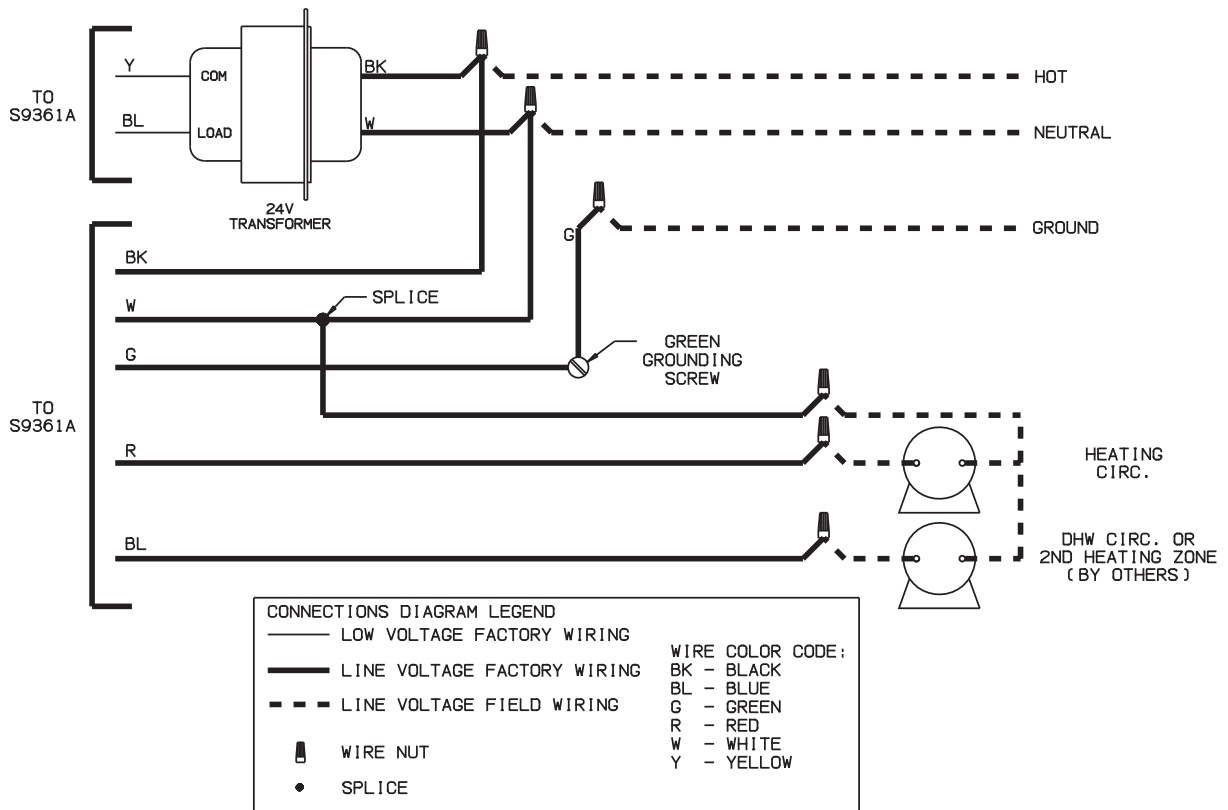

FIGURE 9.0: LINE VOLTAGE FIELD CONNECTIONS
- 1) Line Voltage (120 VAC) Field Connections – See Figure 9.0 for line voltage connections. Provide a dedicated circuit for the boiler of 15A or greater. A service switch is recommended and is required by many local codes. Locate this switch in accordance with local codes or, in the absence of any, in a location where it can be safely accessed in an emergency involving the boiler. All 120VAC connections to the boiler itself are made inside the junction box on the right side of the boiler (accessible through the cover plate on the right side jacket panel). 120VAC connections are: